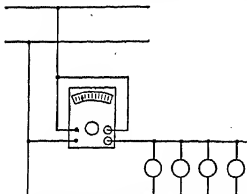

FIG. 257. Wattmeter connected to measure power taken by lamp load.
**Example 4.** Each of the lamps in Fig. 257 takes 1 ampere at 112 volts. What does the wattmeter read?
**Prob. 10-10.** Show the connections of a wattmeter like the one in Fig. 257 to measure the power taken by the armature of a shunt motor.